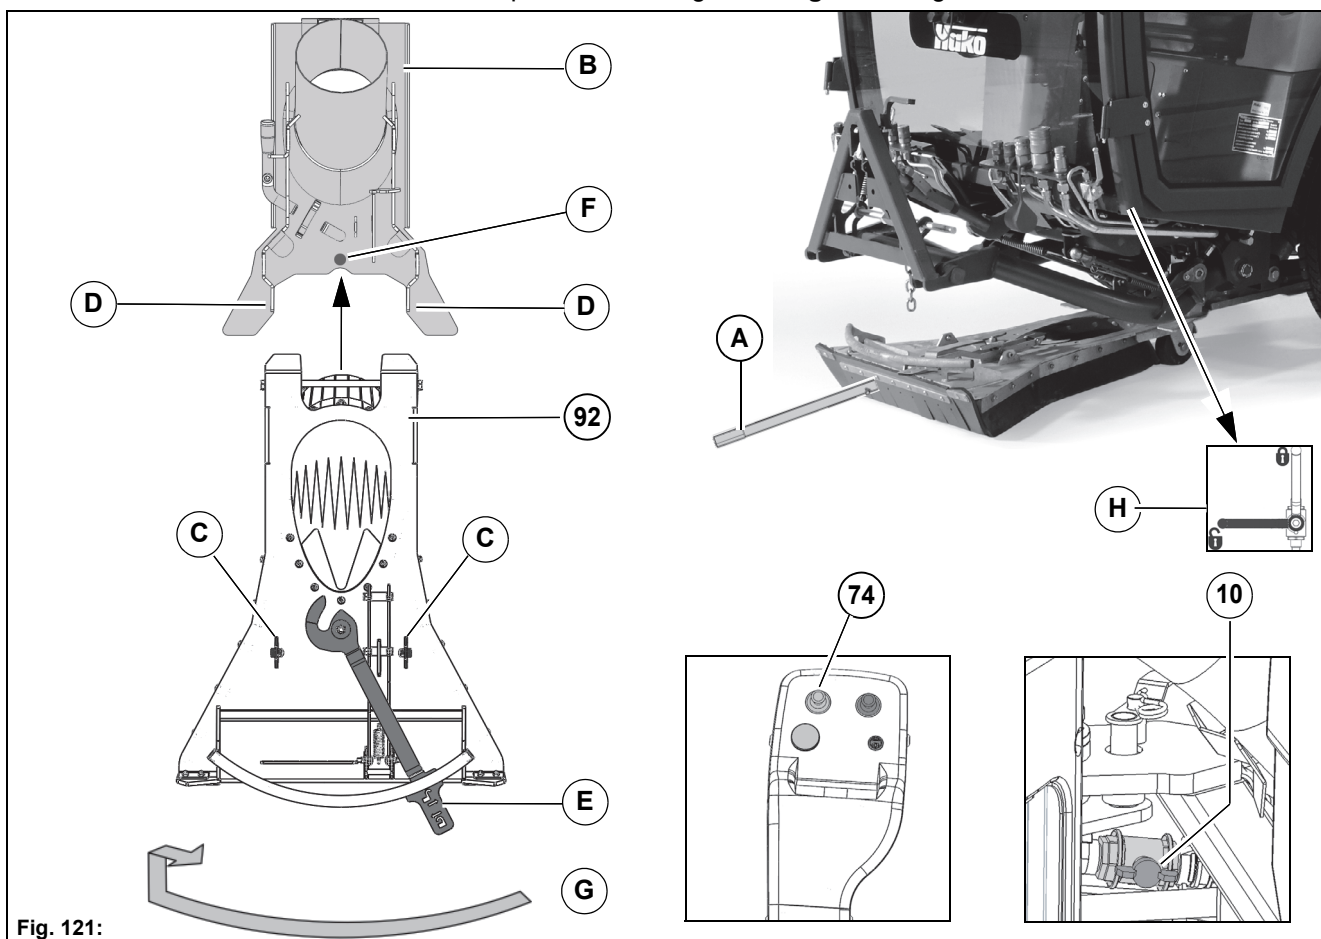

Fig. 121:
3. Position the suction mouth Fig. 121-92 by hand or with the auxiliary tool Fig. 121-A centrally under the holding plate Fig. 121-B.
4. Open the valve Fig. 121-H. Push the joystick Fig. 121-74 forwards. When the valve is open, the holding plate is lowered onto the suction mouth.
5. Shift the suction mouth centrally under the holding plate until the stops Fig. 121-C come up to the points Fig. 121-D.
6. With the lever Fig. 121-E lock and secure the suction mouth on the counter bearing Fig. 121-F of the holding plate, see sketch Fig. 121-G.